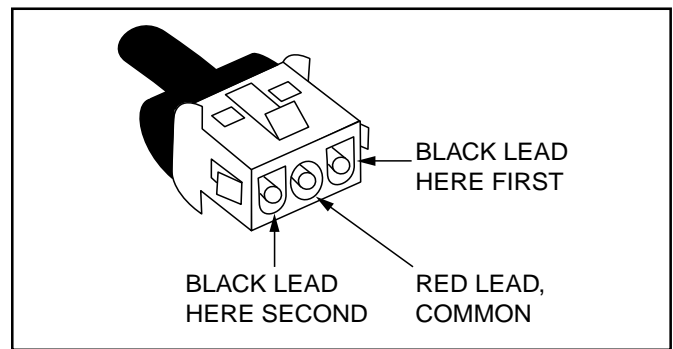

Figure 4.53. 3-Pin Connector Test.
2. If the actuator does not run, disconnect the three-pin connector from the toggle switch. Using a multimeter set to measure resistance, check the operation of the toggle switch by performing the following procedure (refer to figure 4.53):